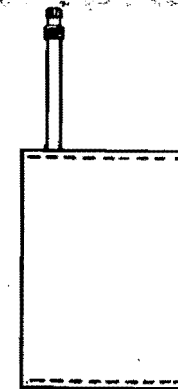

Figure 5
10. The unit is now a pouch, tightly wrapped, with the *Velcro sealed on both ends and the tubing at the top of the unit. (Figure 5)